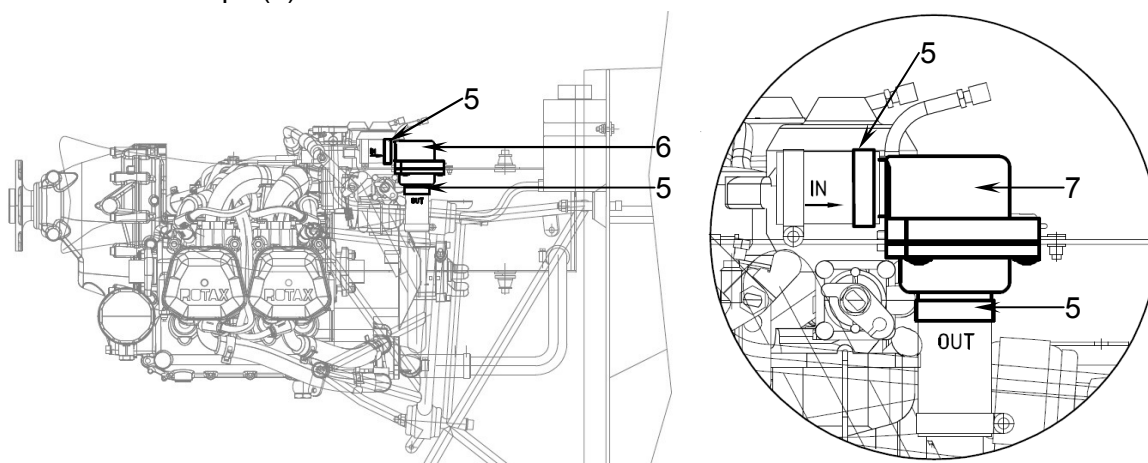

Figure 4
3. Water thermostat modification / replacement (Figure 4).